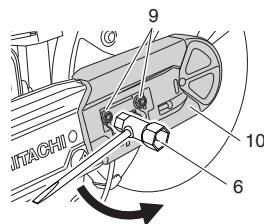

Fig. 11
1. Loosen the nut (9) with the combi box spanner (6) so that the arm cover (10) can move. (Fig. 11)